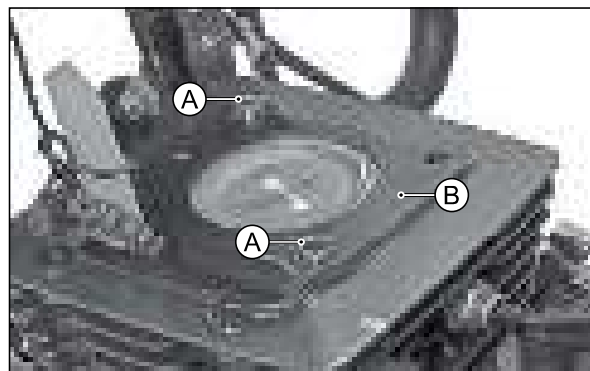

Fig. 3.48
- Take out the tubular dowels (A) either from cylinder head assembly or from cylinder block. (Fig. 3.48)
- Take out the gasket cylinder head (B). (Fig. 3.48)